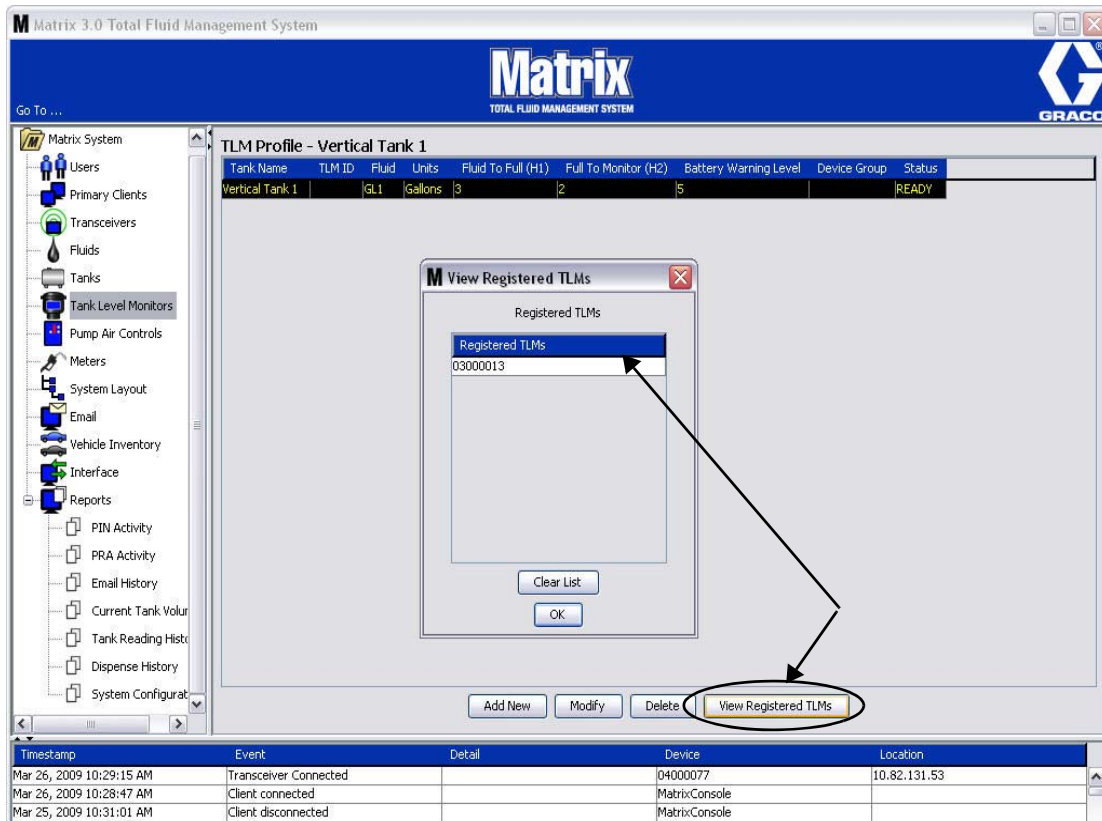

FIG. 126
- The Clear List button removes all registered TLM's from the system (FIG. 126). These TLM's will have to be re-registered with the Matrix PC. See the TLM instruction manual for complete TLM registration instructions.